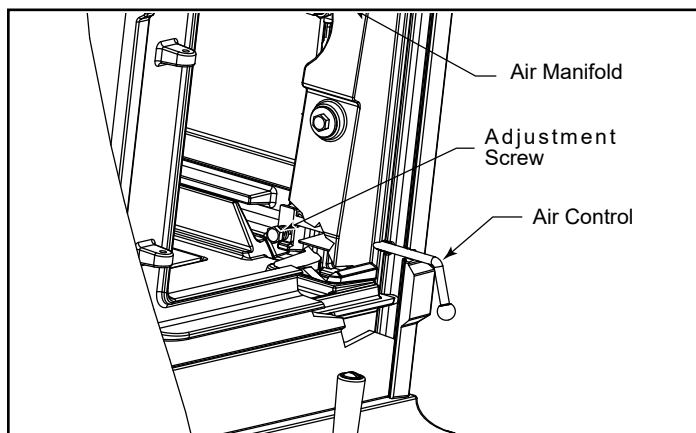

Figure 38 - Primary air control adjustment.
Over time, the air control may tighten or loosen. To adjust the tension on the control, let the stove cool to room temperature. Open the side-loading door and look in toward the inner side of the front panel of the stove. (Figure 38) Locate the lower hex head bolts (A) on the primary air manifold rods on either side of the door. Adjust with a 7/16" wrench.